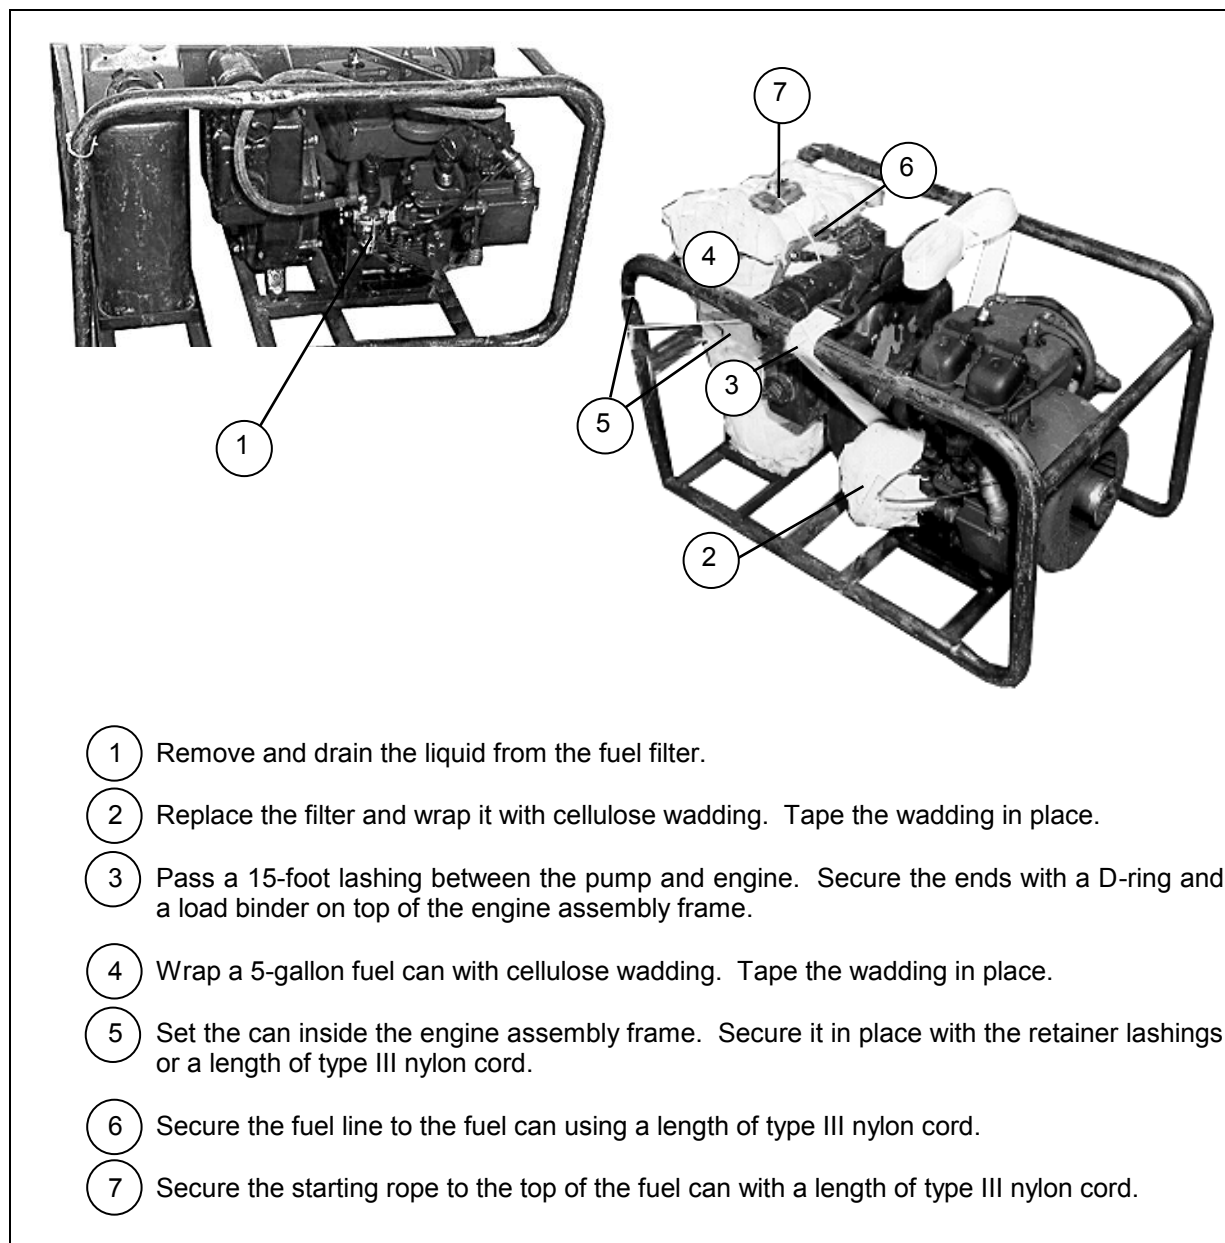
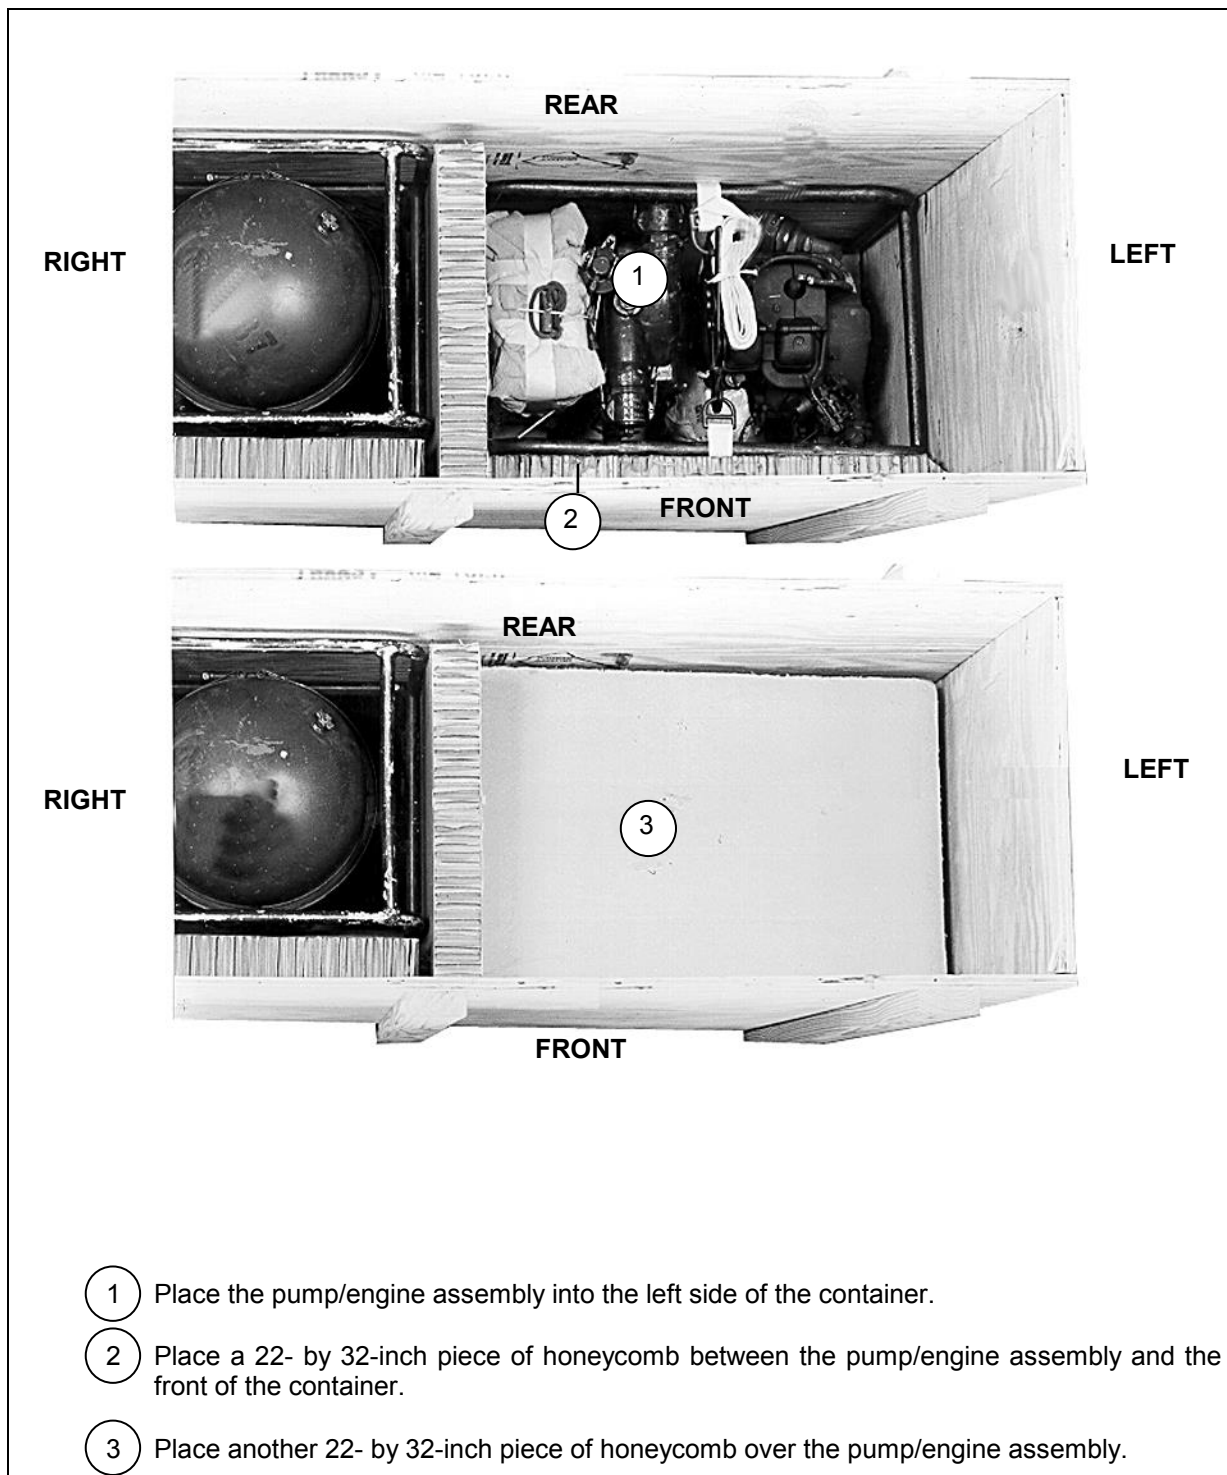

Figure 11-9. Pump/Engine Assembly Prepared
Figure 11-10. Pump/Engine Assembly Stowed
- Preparing Pump/Engine Assembly. Prepare the pump/engine assembly for stowing as shown in Figure 11-9 and stow it in the container as shown in Figure 11-10.